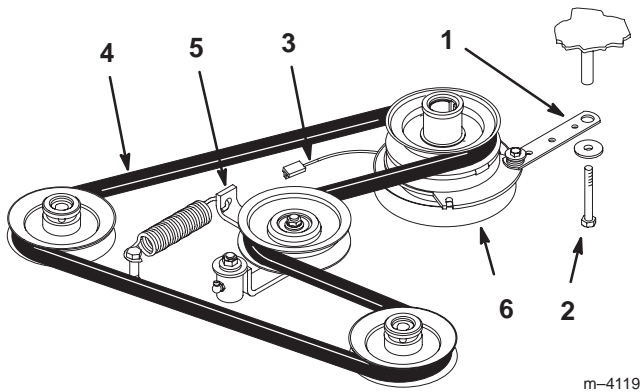

Figure 57
2. Remove bolt from clutch strap and unplug clutch electrical wire (Fig. 57).
3. Pull spring loaded idler to side. Remove traction belt from the engine and hydro pump pulleys (Fig. 57).
4. Install new belt around engine and hydro pump pulleys (Fig. 57).
5. Pull spring loaded idler to side and align belt. Release pressure on spring loaded idler (Fig. 57).